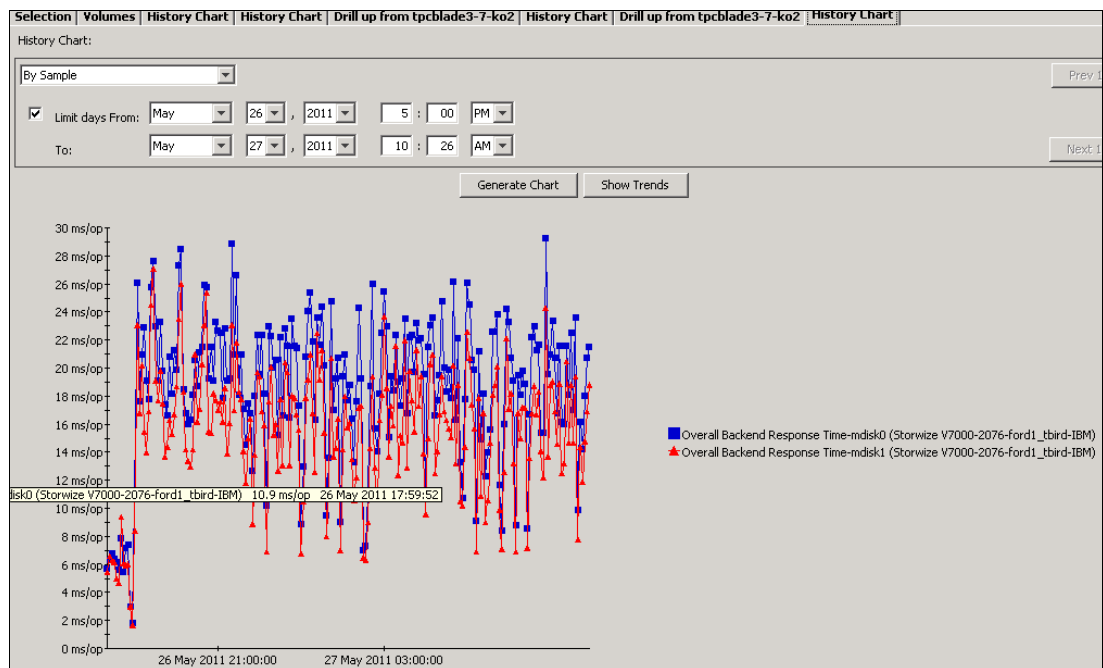

Figure 13-115 Overall Backend Response Time
Keep the charts that are generated relevant to this scenario by using the charting time range. You can see from the chart that is shown in Figure 13-115 that something happened on 26 May around 6:00 p.m. that likely caused the back-end response time for all MDisks to dramatically increase.
- ii. Limit the time period to 1 hour before and 1 hour after the event that was reported, as shown in Figure 13-115 on page 450.